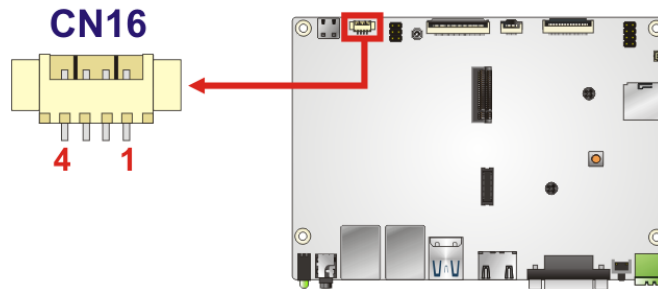

Figure 3-2: Debug Port Connector Location
- CN Location:** See **Figure 3-2**